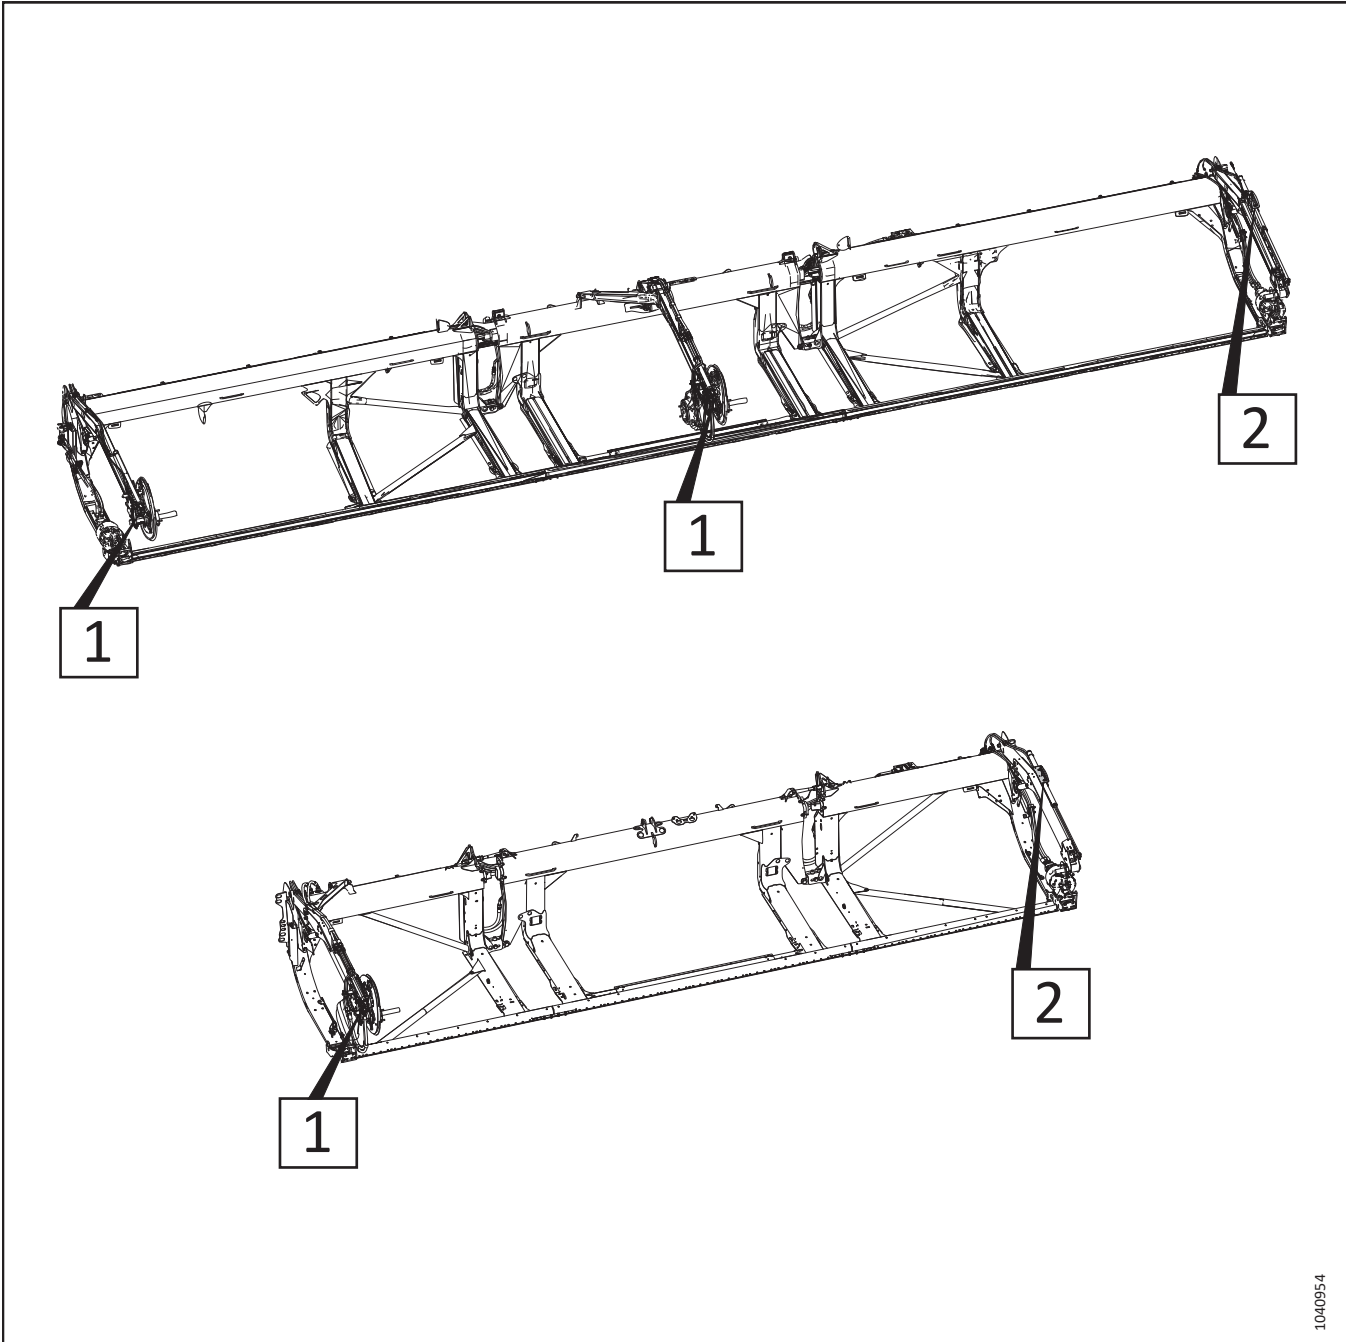

Figure 3.309: Adjustable Fore-Aft Cylinders – Procedure Reference Numbers
6. Refer to Figure 3.309, page 226 to determine the fore-aft cylinder adjustment procedures for your header type. The number on the illustration refers to one of the following procedures: